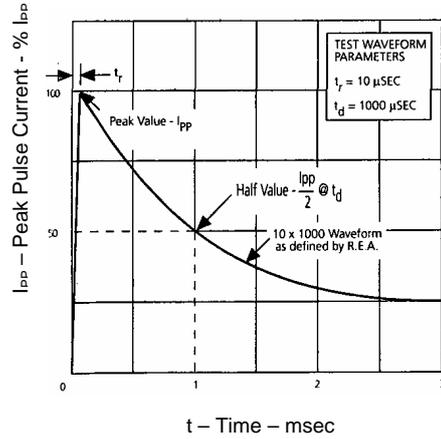

FIGURE 3
*See Figure 3. For the SMBJSAC75, the maximum clamping voltage V_C is at the maximum rated Peak Pulse Current (I_{PP}) of 4.1 Amps.